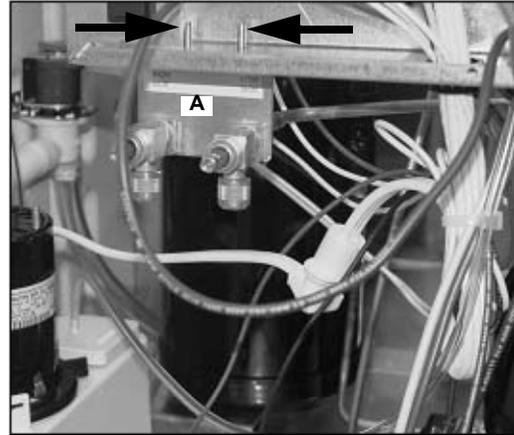

Figure 50.
54. Use 2 hex head screws to attach the service valve bracket (A) to the electrical control box (Figure 50).